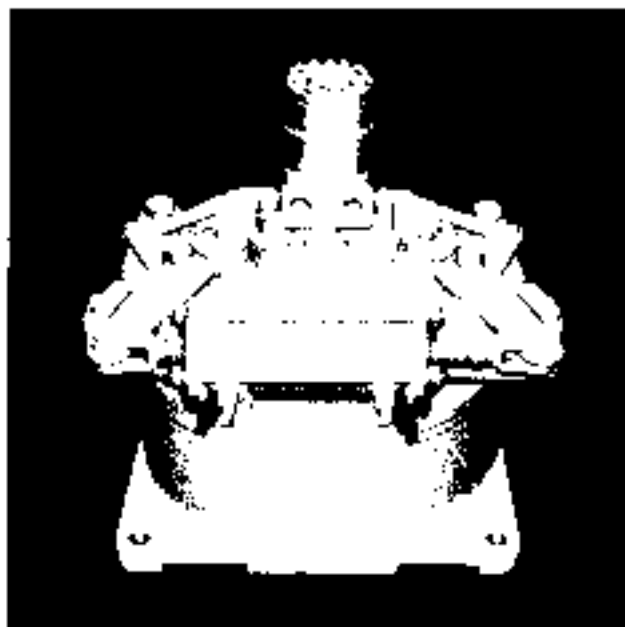

Figure 2-15. Swing Gearbox
3. **Gearbox.** Driven by the hydraulic swing motor, the gearbox is a planetary gear type and functions as a 22:1 speed reducer to rotate the boom. (See Figure 2-15.)